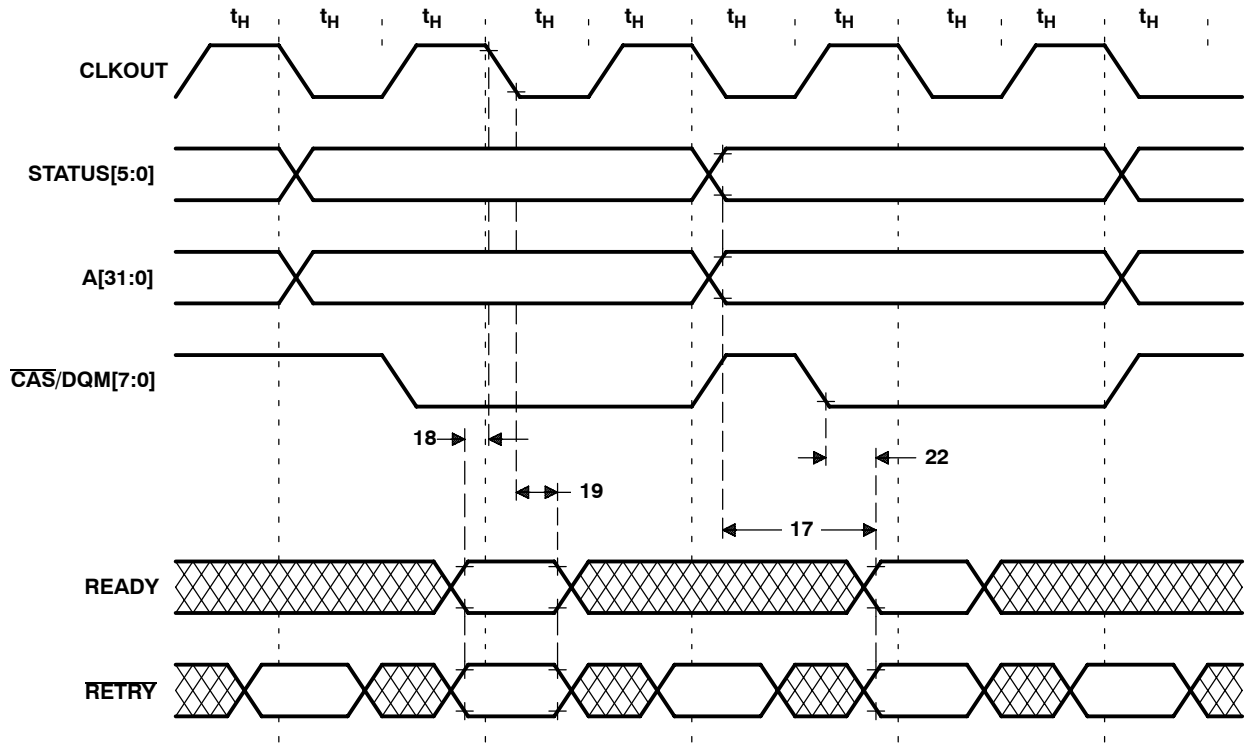

Figure 113. Local Bus Timing: Column-Time Cycle Completion Inputs
**local bus timing: cycle completion inputs (see Figure 112 and Figure 113)**